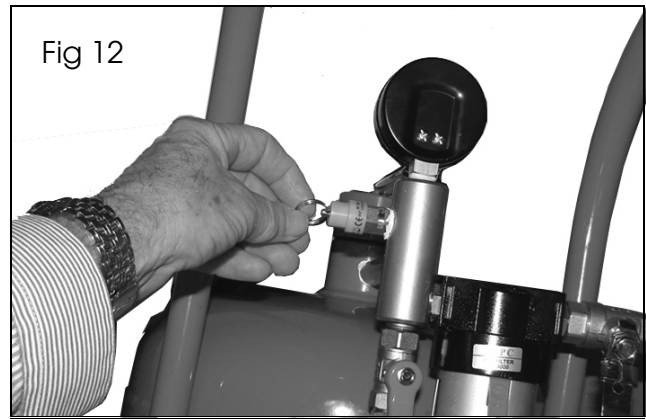

Fig 12
3. Test the safety valve by pulling up on the valve as shown in Fig 12.